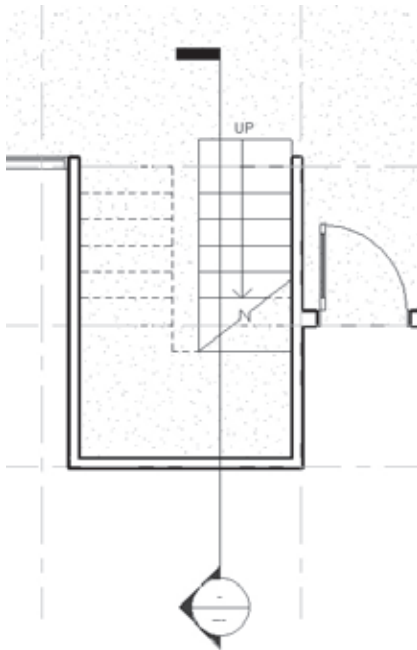

Figure 4.124
1. Use the Section tool in the View tab to draw a section, as shown in Figure 4.124.